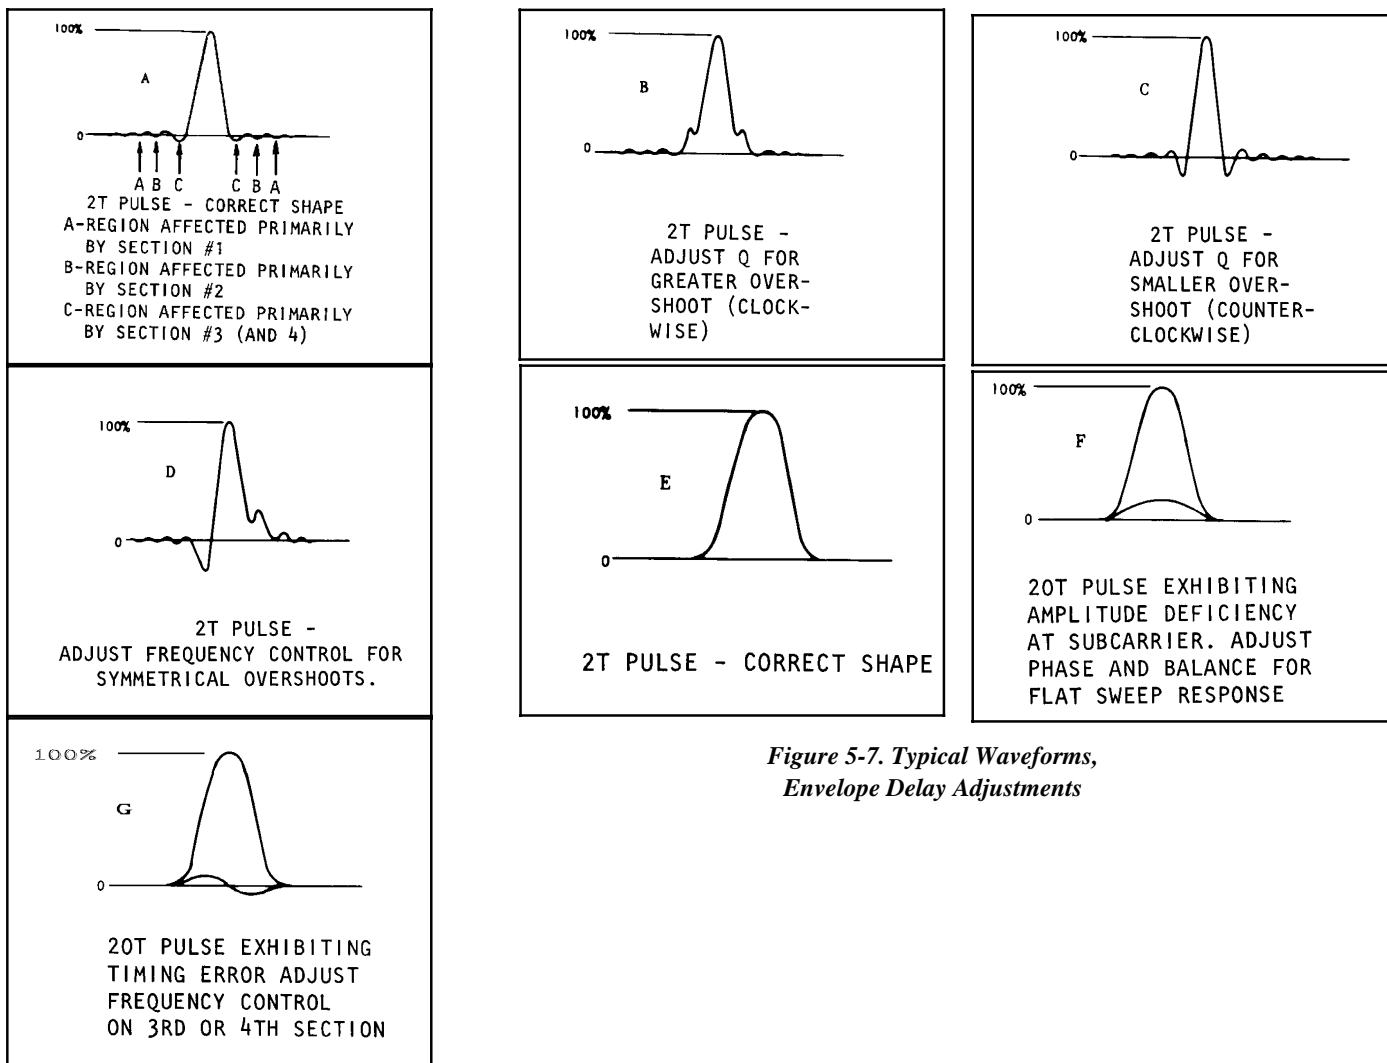

Figure 5-7. Typical Waveforms, Envelope Delay Adjustments
- i. Using the Balance and Phase controls, adjust for the best flat frequency response through the transmitter. The front corrector should control the low end of the band and the rear the high end. The Q and FREQUENCY controls primarily effect the group delay which is observed to be correct when minimum ringing occurs on 2T pulse and minimum baseline distortion is seen on the 12.5 or 20T modulated pulse. See Figure 5-7.